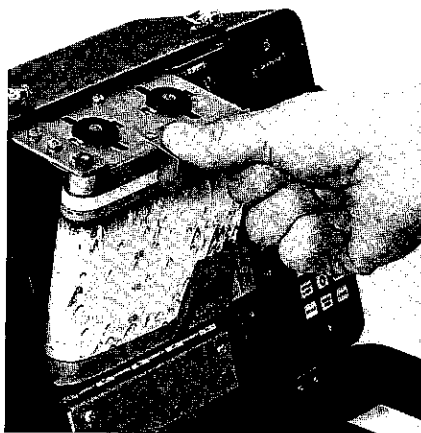

Figure 27
4. Pull out and down on the tab at the top, center of the platen assembly to expose the paper spools. (See Figure 27.)